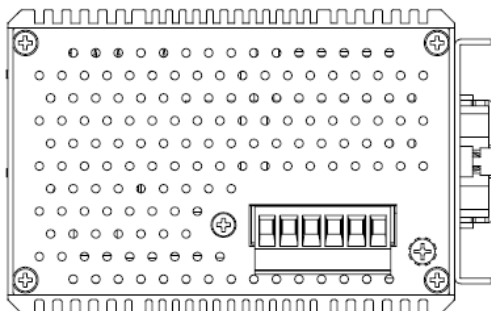

Figure 2.3
*Figure 2.3*, below, shows the top panel of the LNX-1802G-SFP series switch that is equipped with one 6-pin removal terminal block connector for dual DC power inputs (12-48 VDC).